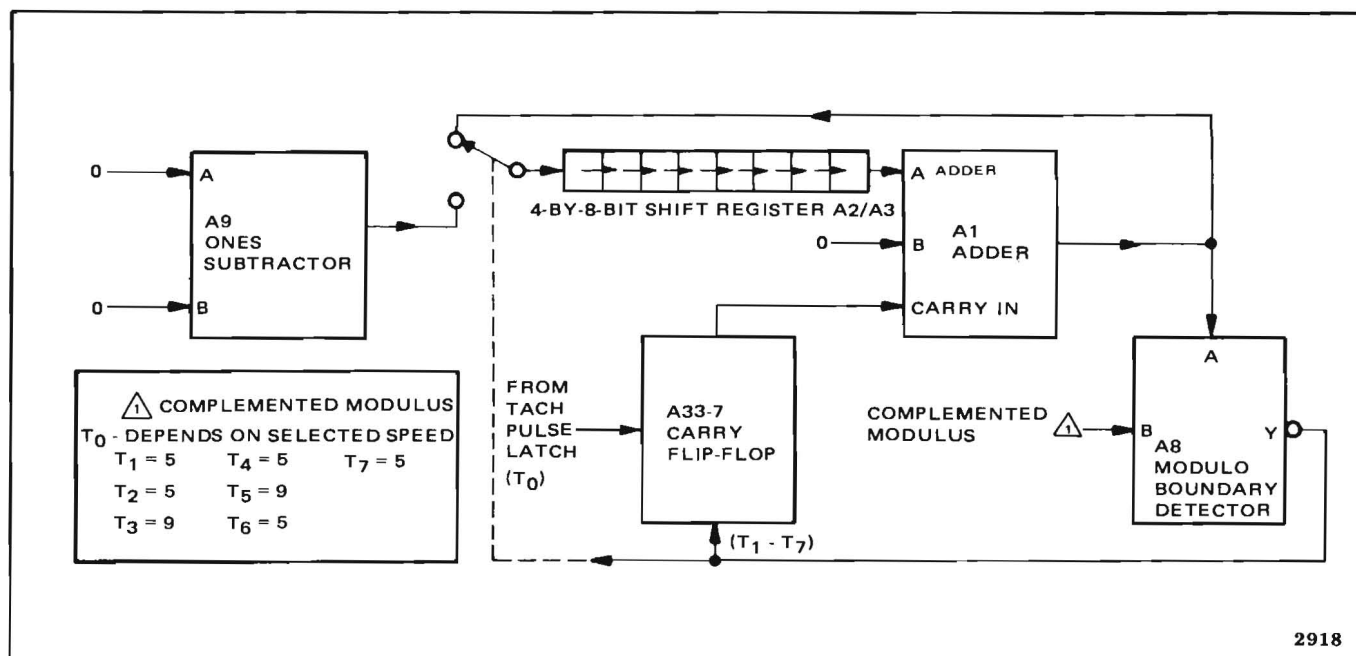

Figure 4-34. Count Up Logic, Simplified Block Diagram
4.99. Count-Up Mode. When the tape is moving forward, the tape timer is in a count-up mode. During this time, the TDR signal (up/down command) is high. When the TDR signal is high, direction latch A33-2 is set by the positive-going edge of the 432-kHz clock. With direction latch A33-2 set, the output of the carry flip-flop A33-7 is directed to the carry input of adder A1 through NOR gate A20-1; the 4-bit data from the modulo logic is gated to modulo boundary detector A8 via the complementary encoder A13/A14; and the 4-bit data to the ones subtractor A9 is low. Figure 4-34 shows a simplified block diagram of the serial adder formed by 4-by-8-bit shift register